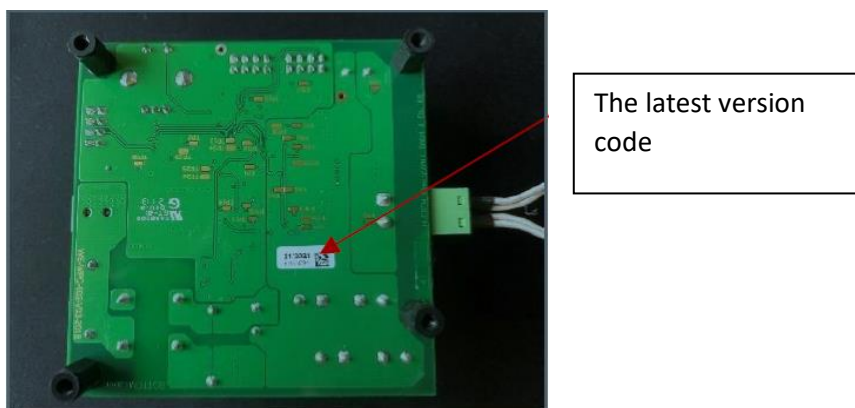

Figure 1: The bottom side the Tx board showing the current version code
- Before proceeding with the flashing instructions explained in this document, please check if the boards in the 760308EMP 200W development kit are the latest version of 2021, as shown below in Figure 1. If not, contact at wirelesspower@we-online.de